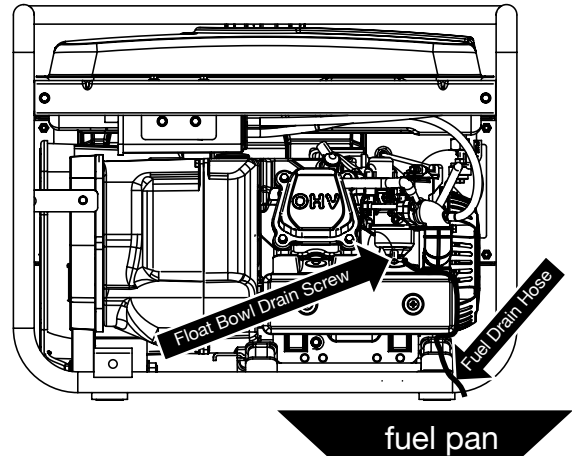

Figure 16: Fuel drain hose
2. Locate the clear plastic hose from the float that is exiting out the bottom of the inverter, and place a suitable container under it to catch the drained fuel (see Figure 16).